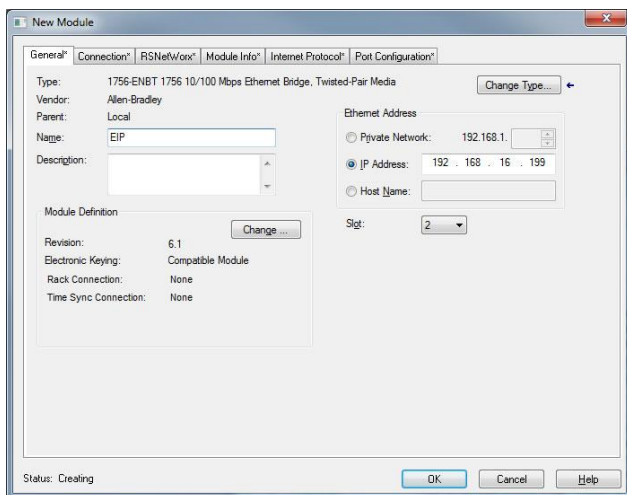

Figure 28: Identifying the New Module
- 6) The "New Module" window will open. Refer to Figure 28.